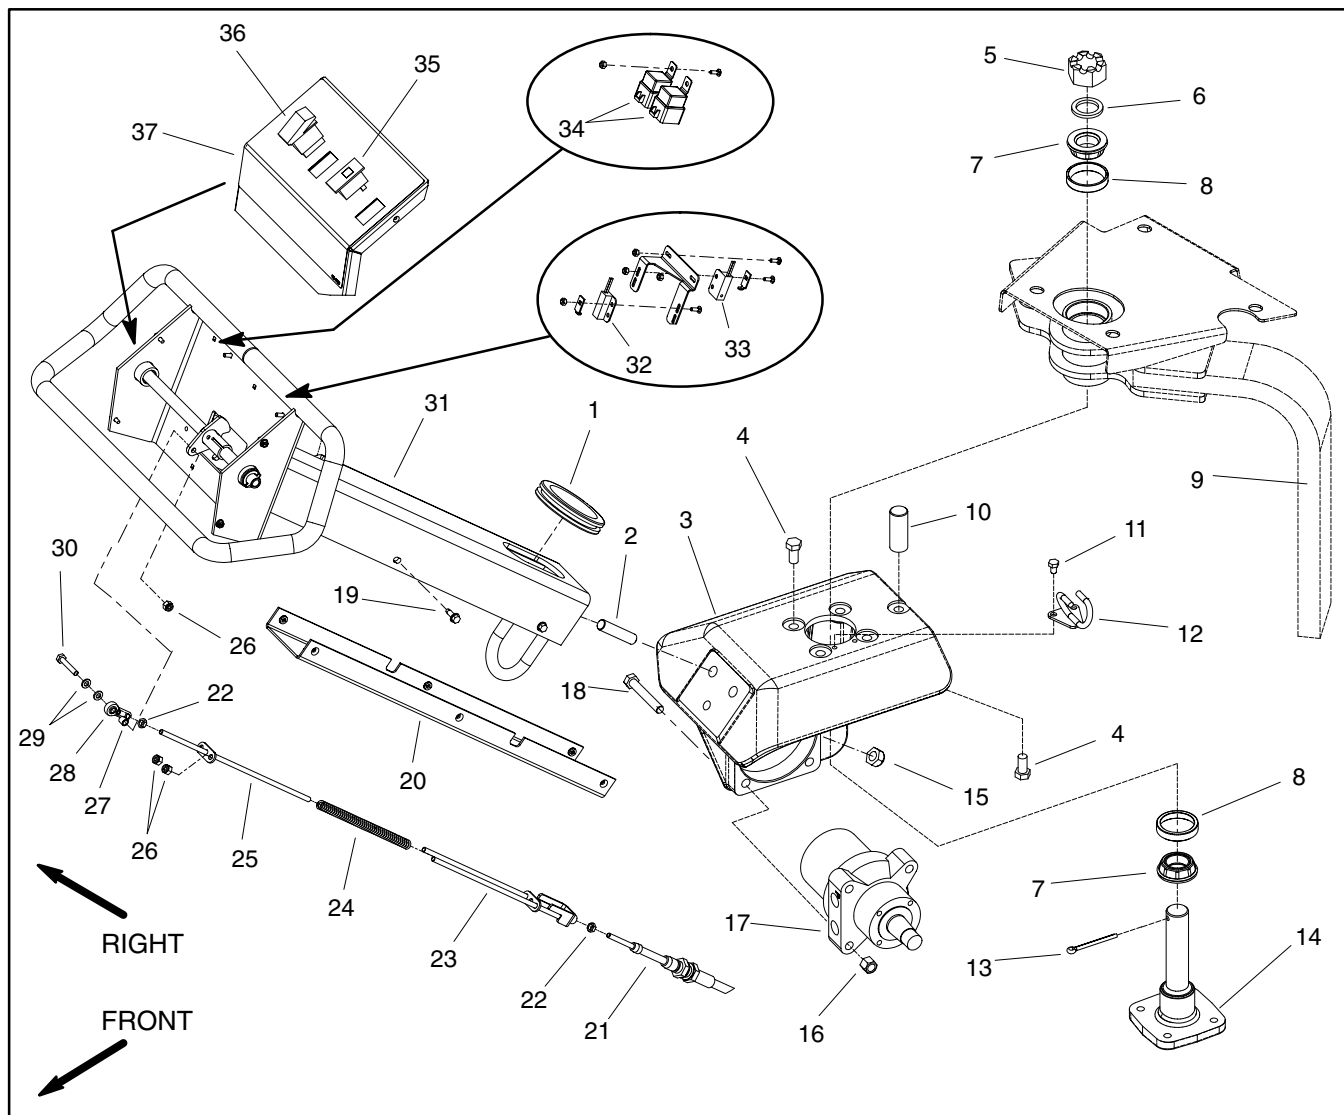

Figure 7
## Disassembly (Fig. 7)
## Assembly (Fig. 7)
1. If removed, secure steering spindle to steering arm with four (4) cap screws.
4. Assemble steering components in the reverse order of disassembly using Figure 7 as a guide.